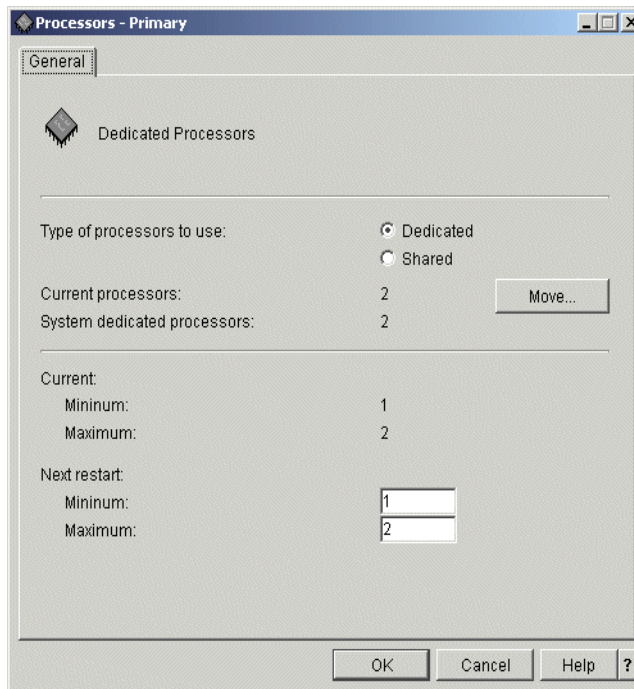

Figure 4-2 Processor properties for the primary partition
7. In the details pane of the Configure Partitions Window, right-click **Dedicated Processors** and select **Properties**. This brings up the Processors - Primary window as shown in Figure 4-2.